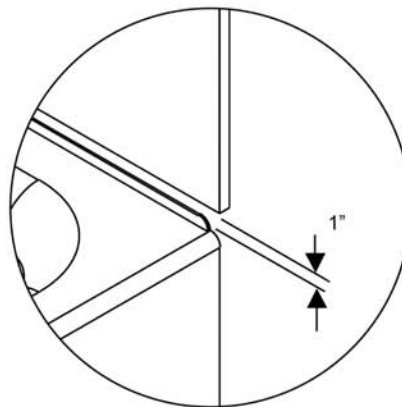

fig 2
2. Install green board 1" above the tube flange. See figure 2.